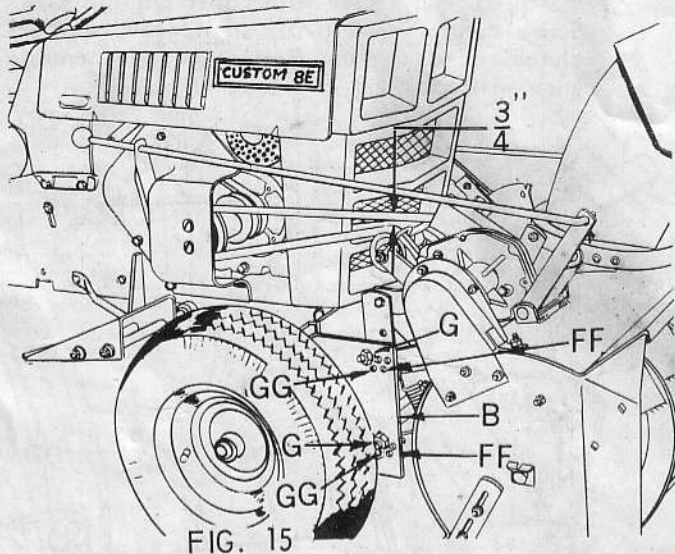

FIG. 15
With clutch engaged (rod pushed forward), engine NOT running and snow thrower in RAISED position, snow thrower drive belt must have $\frac{3}{4}$ " clearance between belt as shown in Fig. 15. If clearance is much greater than $\frac{3}{4}$ " clutch will not release properly. If clearance is much less than $\frac{3}{8}$ " belt may slip. Use the necessary holes in hanger brackets (B, Fig. 15), to acquire this clearance. Refer to Fig. 15. If there is $\frac{3}{8}$ " or less, clearance between belt, remove bolts (G), in both R.H. and L.H. hanger brackets and insert bolts through holes (FF). Tighten bolts securely. If clearance is over 1" between belt, move bolts in L.H. and R.H. hanger brackets to holes (GG), and tighten securely. This will give less clearance to belt so that it will release properly.